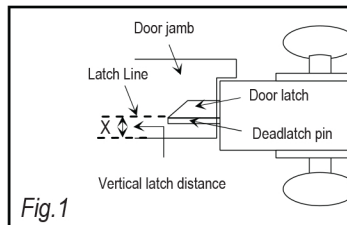

Fig. 1
1. Measure the latch line (see Fig. 1).